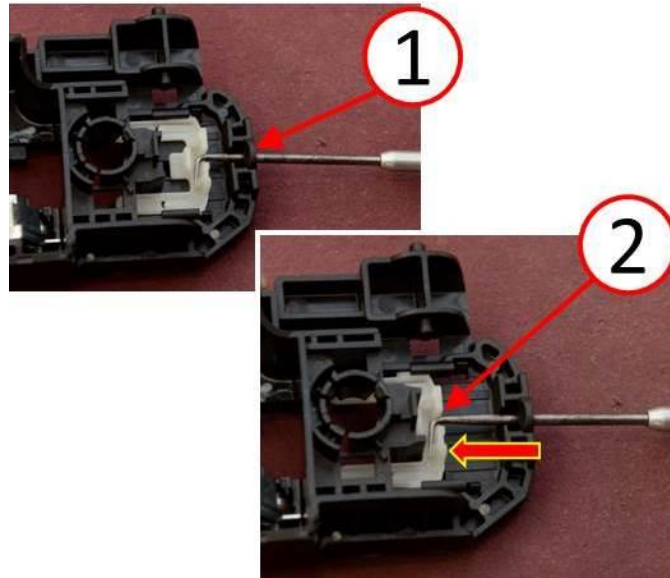

Fig. 13 Lock Door Handle Cap Retainer
15. With the pick tool inserted into the access hole (1), push the door handle cap retainer (2) forward to lock the door handle cap (Fig. 13).